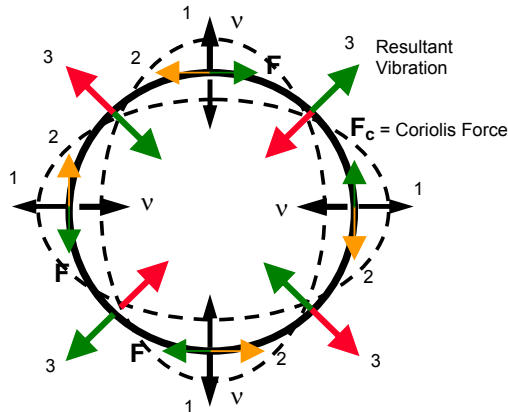

Figure 9
Figure 9 shows the movement of the silicon ring while vibrating:- As the ring oscillates in its natural state the ring moves in the way shown by (1). When the gyro is turned, the Coriolis force acts on the ring as shown by (2). This causes a resultant vibration 45° out of alignment with the primary vibration, as shown by (3). The force required to completely null this resultant vibration is directly proportional to the angular rate.